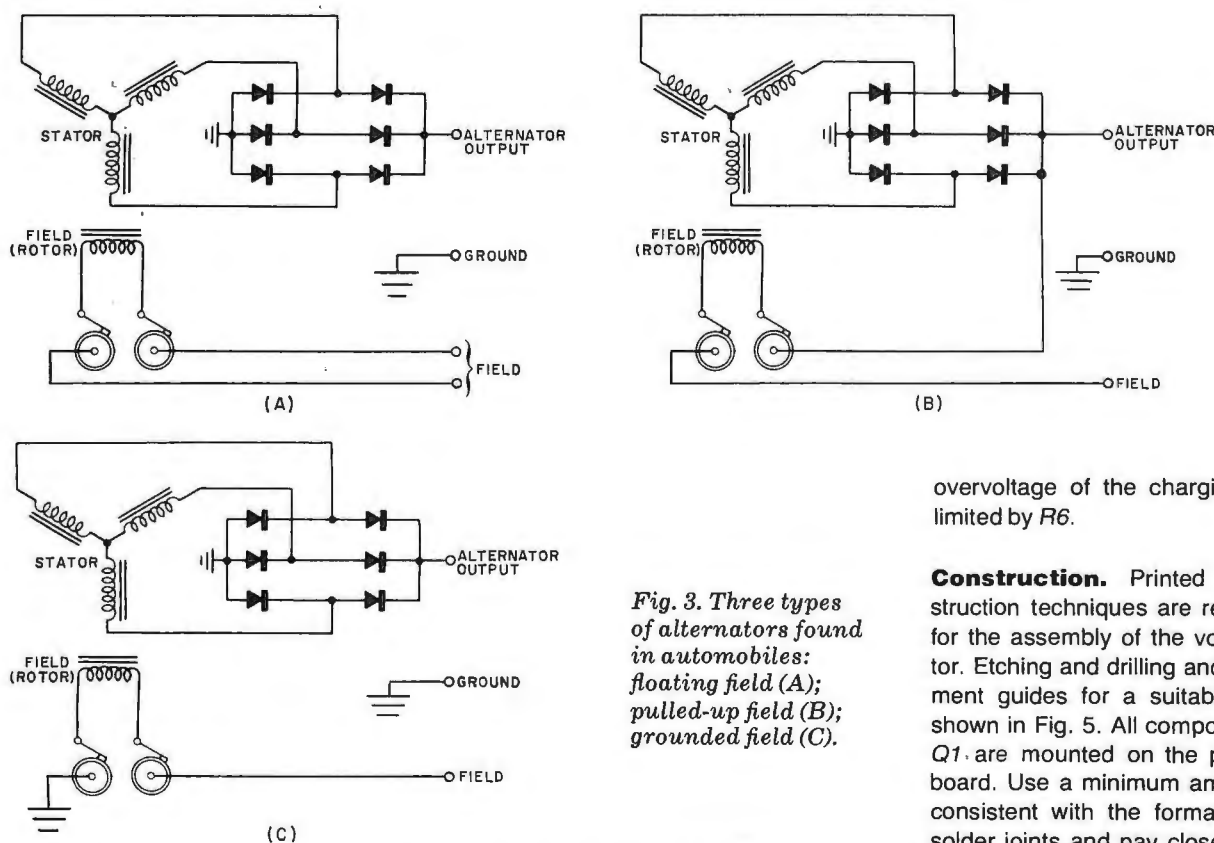

Fig. 3. Three types of alternators found in automobiles: floating field (A); pulled-up field (B); grounded field (C).
Shown in Fig. 3 are the three basic alternator types commonly used in automobiles. The regulator presented in this article can be used with the floating field (A) and pulled-up field (B) alternators. However, the regulator cannot be used with a grounded field alternator (C) unless the output stage of the regulator is modified. Alternatively, the alternator can be modified to make it a floating field type. The project has not been tested with this type of alternator, but provisions for the required regulator modifications have been included on the pc-board foil pattern.